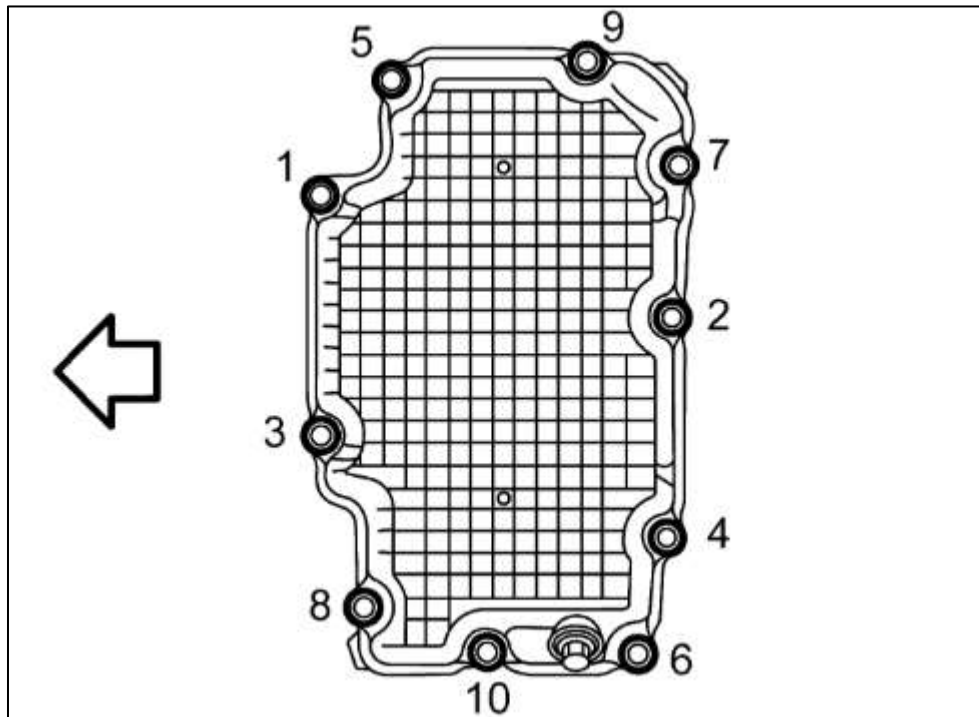

Figure 6
10. Tighten the (10) ten bolts in two sequences in the order shown below. Torque the bolts to **2.96 N·m**, or **26 in-lbs** for the first pass, then torque them to **8.33 N·m**, or **74 in-lbs** for the second pass. *Figure 6*.